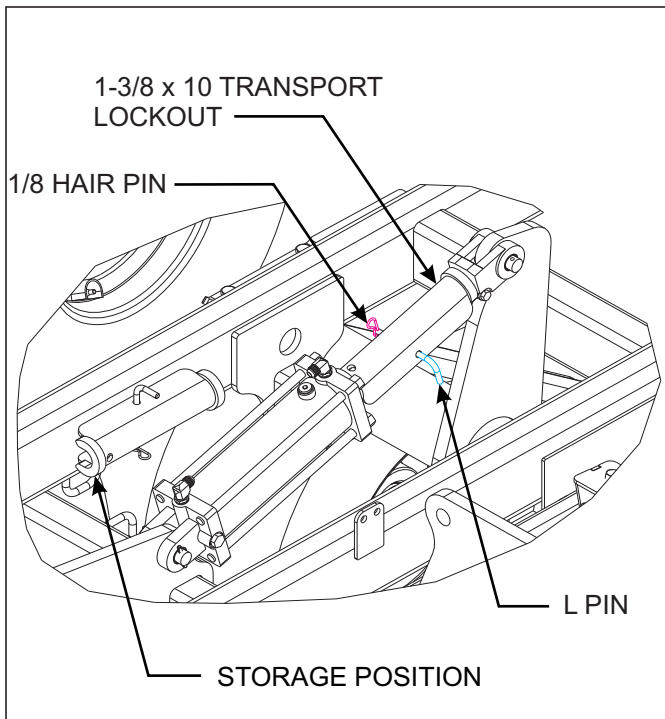

Figure 4-2: Transport Lock Locations
- c. With all cylinders fully extended, remove the transport locks See Figure 4-2. Lower and raise the unit to verify that all cylinders are working simultaneously throughout the stroke.